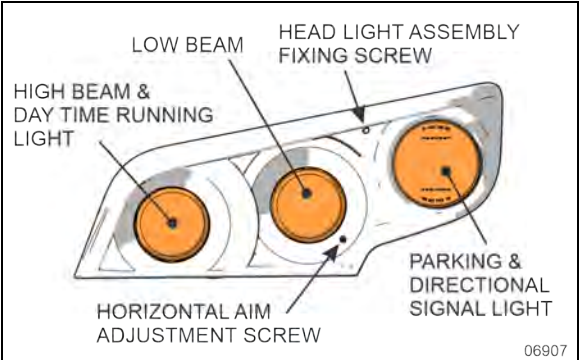

FIGURE 68: HEADLAMPS ASSEMBLY
11. Tilt headlamps assembly up into its housing then secure using fixing screws (2).
*The headlamp module aim must be checked and adjusted even if it was properly adjusted before the headlamp module was replaced. Only low beam can be adjust with an adjusting screw (see Figure 68).*